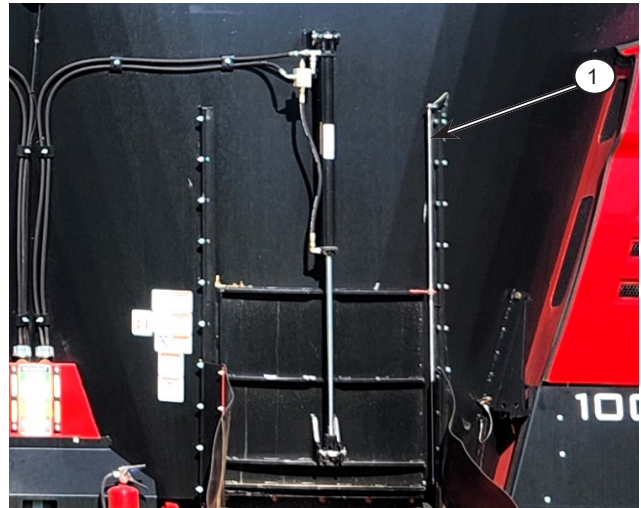

Figure 2: Existing door sensor
4. Remove the existing door sensor (1), as seen in *Figure 2*.